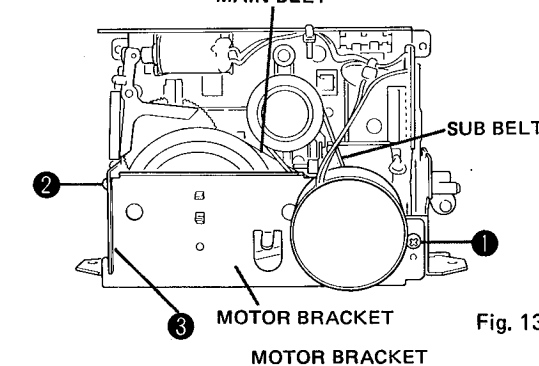

Fig. 13
3. Remove the screw 1 in Fig. 13 and remove actuators 2 and 3 when pulling down the motor bracket and then remove the motor and sub belts.